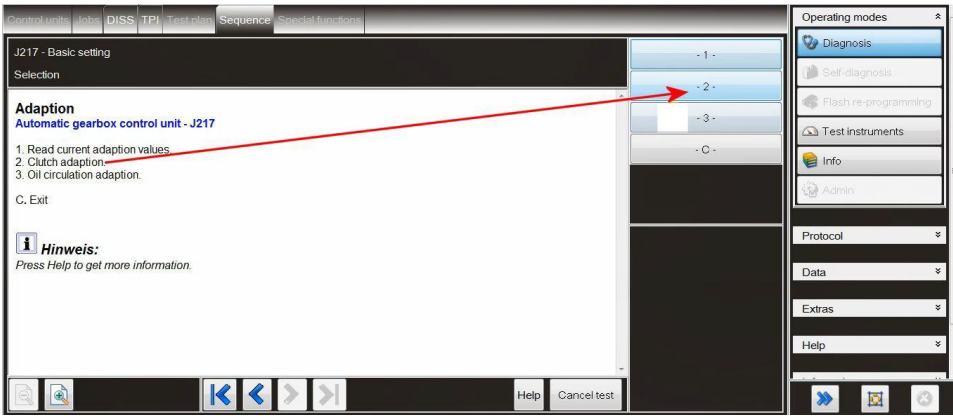

Figure 13
- Referring to Figure 13 - Carry out -2- Clutch adaption procedure